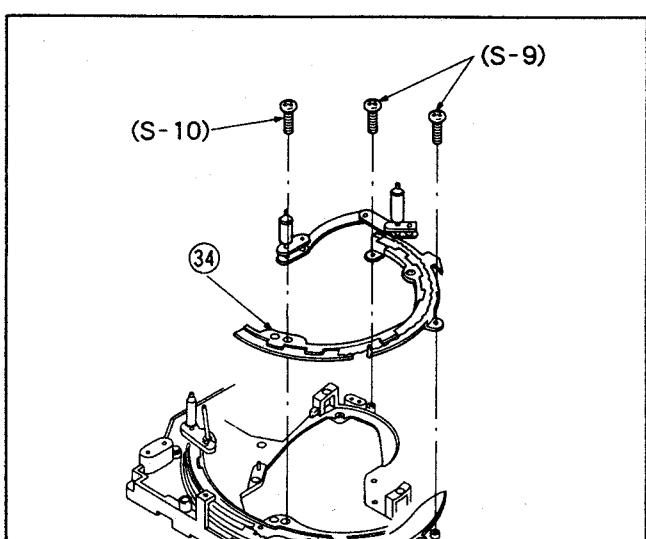

Fig. M16
38) Remove T rack guide unit. See Fig. M16.
- 8) Reinstall T rack guide assembly. See Fig. M16.